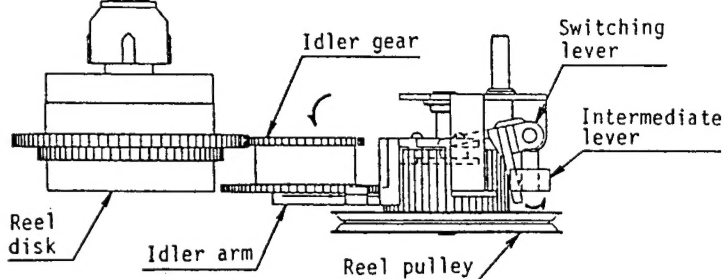

Figure 1-5. Gear Engagement in Recording, Playback and Trick Play Operations
- 6) In the recording, playback and trick play modes, the idler arm moves to the lower position so that the small idler gear engages with the large gear of the reel disk. In this case, the rotation of the idler assembly is transmitted through the torque limiter built in the reel disk to the reel disk. (Figure 1-5.)
- 8) The idler gear is positioned as shown in Figure 1-5. when tape loading is completed. The limiter gear of the take-up reel disk then goes into an operating condition, and its sliding motion absorbs the change in tape diameter while the tape is being wound in order to compensate the reel's revolving speed. (Figures 1-5. and 1-8.)